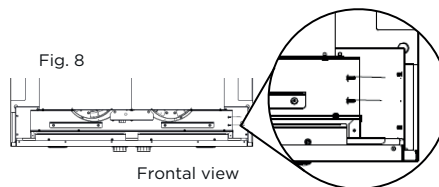

Fig. 8
17. Attach the Oristano to the hood insert with 2 x 3.5 x 9.5 mm screws on each side. (Fig. 8).